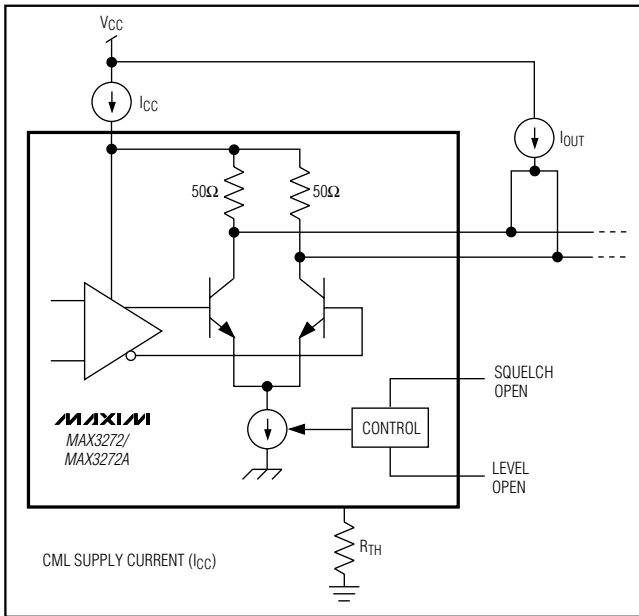

Figure 1. Power-Supply Current Measurement
- Note 2:** Supply current measurement excludes the current of the CML output stage ( $16mA$  typical). See Figure 1, *Power-Supply Current Measurement*.